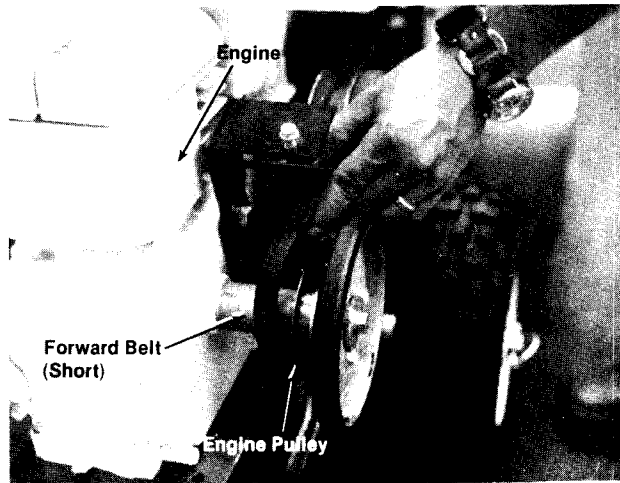

FIGURE 38.
3. Hold the gear shift lever in Reverse (R) position and slip the belt off engine pulley, towards the engine as shown in figure 38.